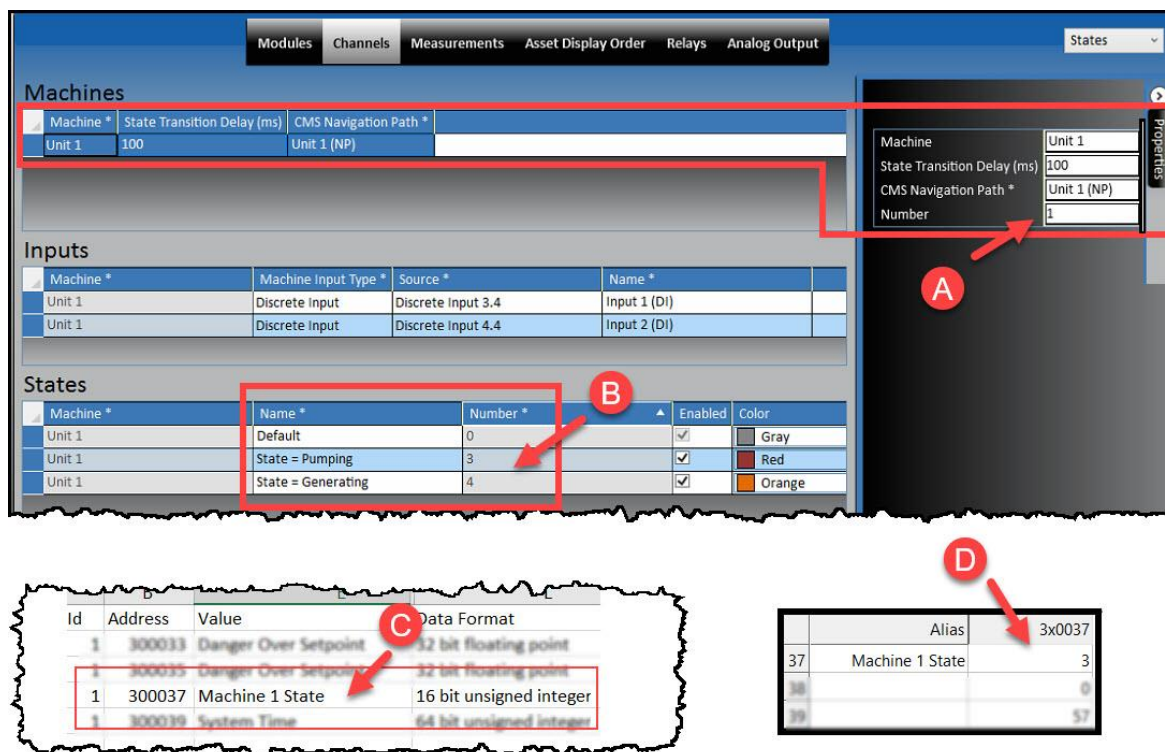

Figure 8-5) Machine Number (Modbus)
You can also verify the machine-state using Modbus (**Figure 8-5**). Each machine defined in the configuration has a unique ID number (A) shown in the Properties pane. The value of the register will contain the unique ID number of the machine-state (B). the Modbus map (C) will list the machines by their ID number.
Read the Modbus register (D) to see the machine-state ID number. In the example here (**Figure 8-5**), register 30037 shows that the current machine-state for Machine 1 = 3 (Pumping).